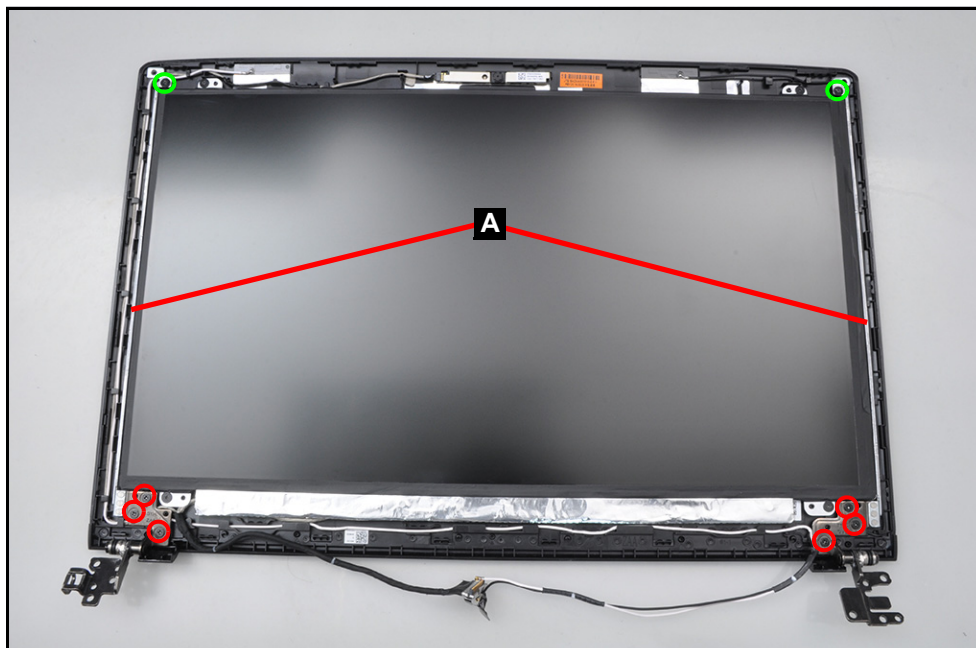

Figure 3-63. LCD Hinge Removal
1. Find the LCD hinges (A) on the LCD cover (Figure 3-63).
2. Remove eight (8) screws securing the LCD hinges in place (Figure 3-63).